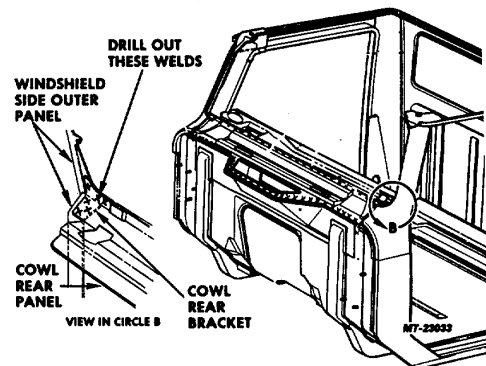

Fig. 44. Windshield Side Outer Panel to Cowl Rear Panel and Bracket Spot Welds
8. Drill out six spot welds and separate windshield side outer panel from cowl rear panel and bracket (Fig. 44).